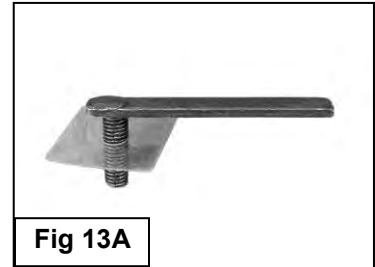

Fig 13A
- Select (1) 10mm Bolt Plate and (1) 10mm Plastic Retainer, **(Figure 13A)**. Partially thread the Retainer onto the Bolt Plate. Insert the Bolt Plate into the hole in the back of the frame channel, **(Figure 15B)**.
(see Fig 13A)